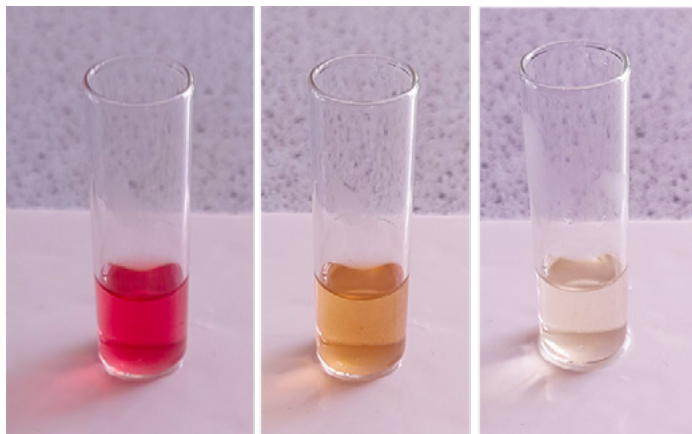

Figure 3: As the reaction of oxalic acid with acidified potassium permanganate solution progresses, the solution becomes colourless.
- When the reaction mixture just turns colourless, stop the timer, and record the time in seconds (figure 3).